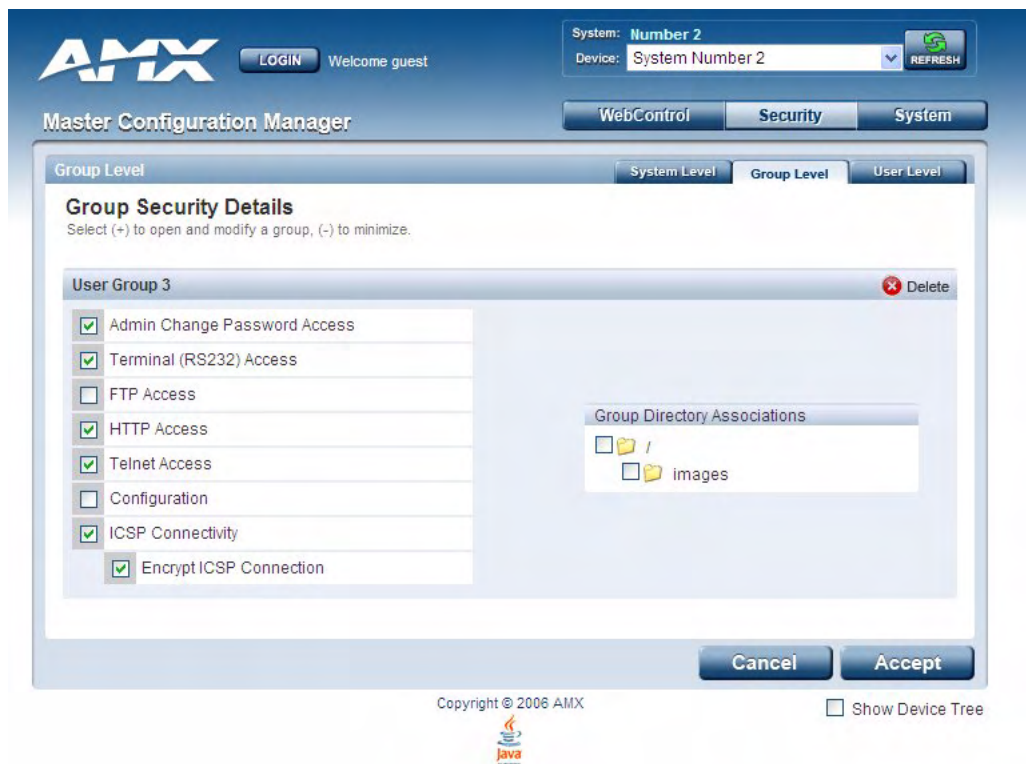

FIG. 9 Group Security Details Page (Edit Group Security Details)
2. Click the **Edit** button to open the *Group Security Details* page for the selected group (FIG. 9).